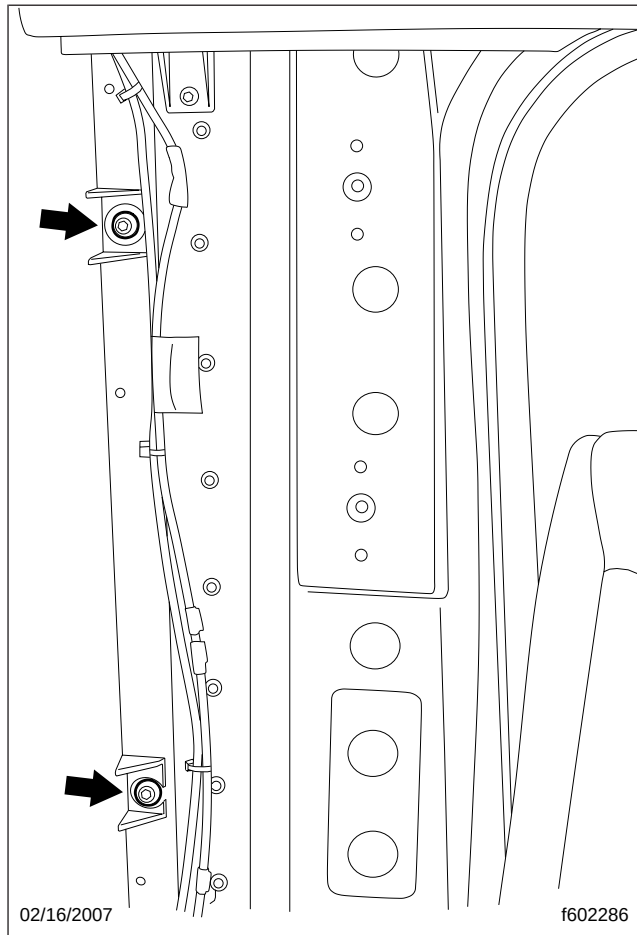

Fig. 5, Cabinet-to-Side Wall Fasteners Behind Seat
15. Remove the two screws and washers that attach the cabinet to the cab side wall behind the seat; see Fig. 5.
4. Install the two screws and washers that attach the cabinet to the cab wall behind the seat; see Fig. 5.